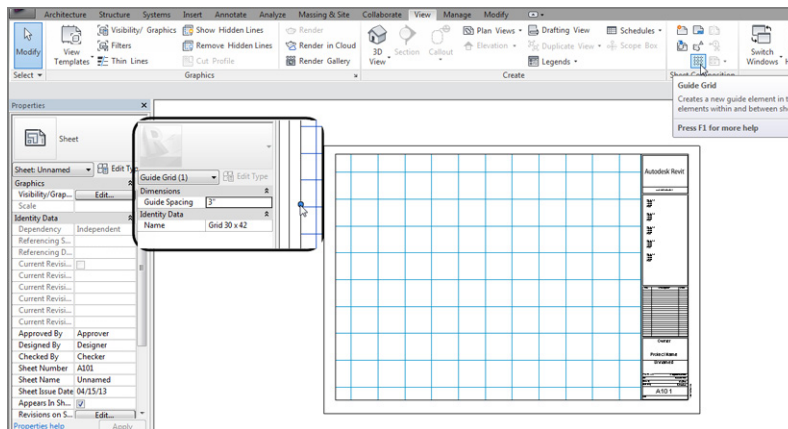

FIGURE 14.2 Adding a guide grid to a sheet
1. On the View tab, click Guide Grid, as shown in Figure 14.2.
3. Select the guide grid, and drag it into place by using the blue grips (see Figure 14.2).
4. With the guide grid still selected, change Guide Spacing to 3" (75mm) in the Properties dialog (see Figure 14.2).